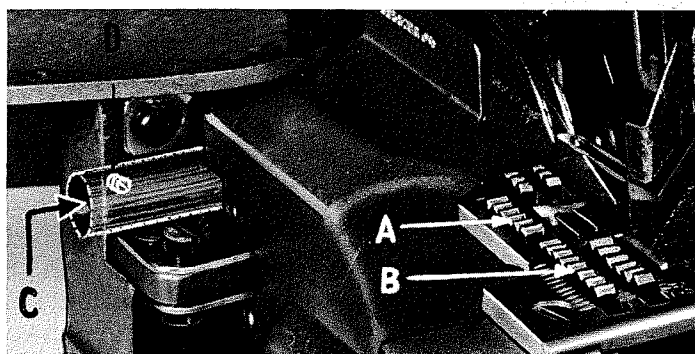

Fig. 12
Assemble the main and differential feed dogs (A, B, Fig. 12). Main and differential feed dogs should be leveled with respect to the throat plate by rotating feed tilting adjusting pin (C). This pin raises or lowers the back end of the feed bar.